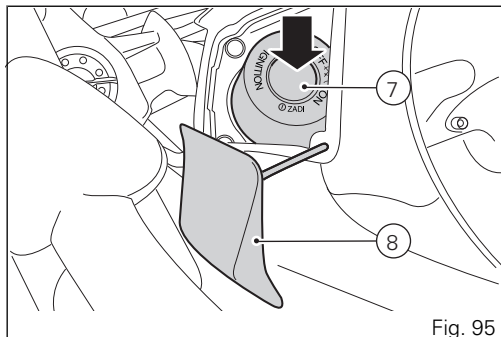

Fig. 95
The "Hands free" lock (1) is located on the front of the tank. The door must be removed to access it (8, Fig. 95).